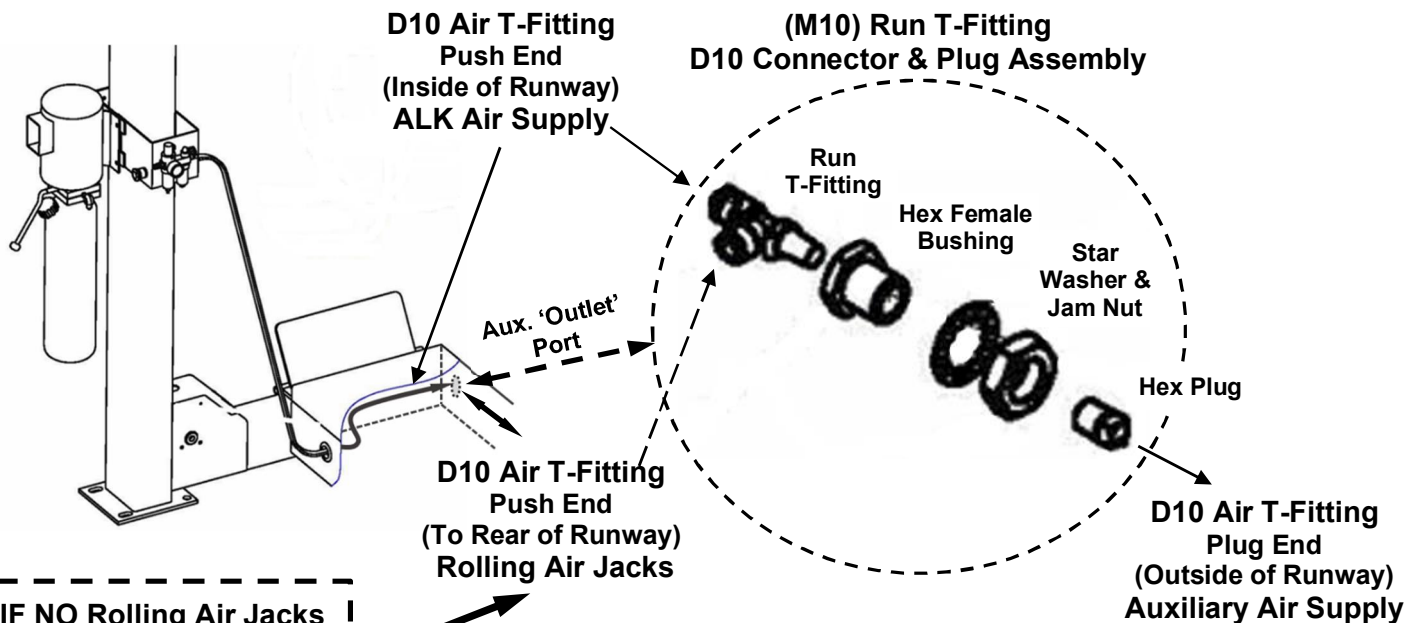
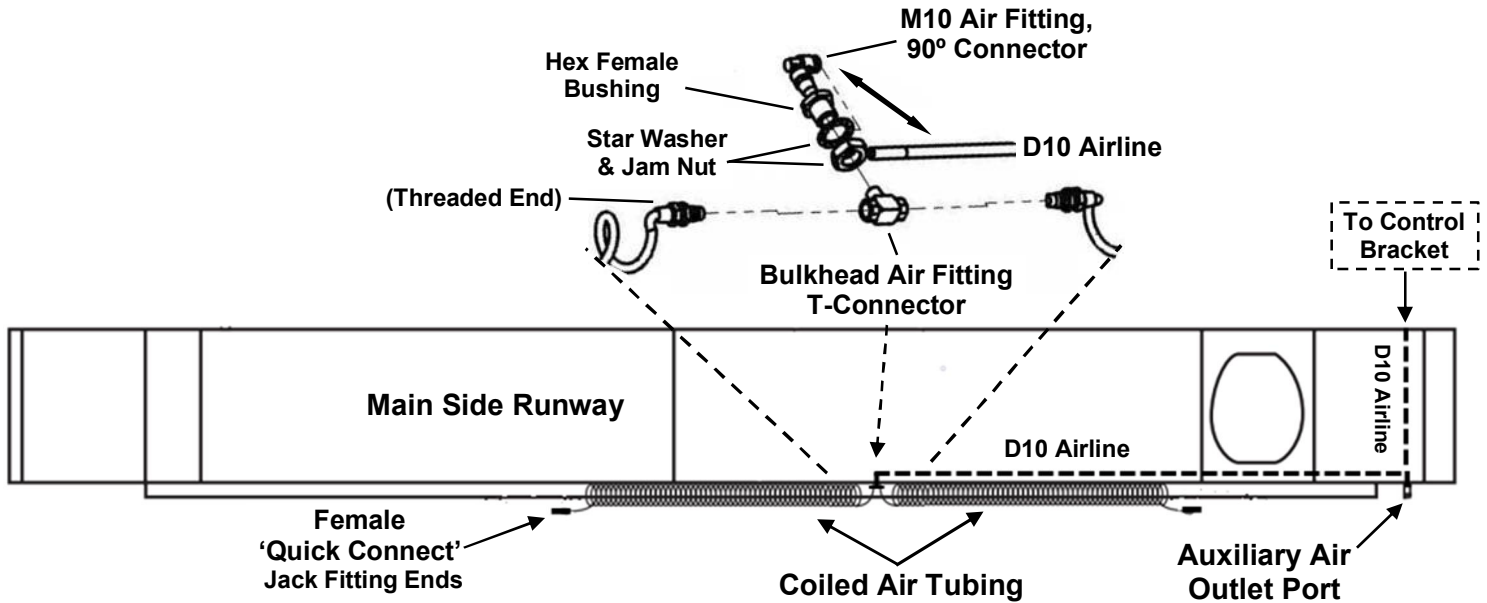

Fig. 7
Fig. 8
- 1) For Auxiliary Air Outlet Port. mount the (M10) Run T-Fitting Connector & Plug Assembly to runway port, ensuring the π section of Run T-Fitting is pointed towards the rear of runway, with the Hex Female Bushing & Plug end inserted through port hole in Runway. Secure T-Fitting with 45mm Jam Nut, Fig 7.
- 2) Using the previously routed D10 Airline, cut airline to length (if needed) to connect to the T-Fitting's push end port, directly across, ensuring the D10 airline is routed above & clear of Cable Pulleys, Figs. 7 & 8.
the end is positioned to the outside of runway towards jack rails. Secure Bulkhead Air Fitting T-Connector to runway with 45mm Female Busing, Washers & Jam Nut. Next, mount (M10) Air Fitting 90° Connector to Hex Female Bushing, positioned to the inside of the runway, **Fig 8**.
- 4) Using D10 x 110+Airline, connect to Auxiliary Ports T-Fittings, push end, on the inside of front of runway, **Fig. 7**; then route D10 airline to connect to the (M10) Air Fitting 90° Connector, **Fig. 8**.
- 5) Connect both Coiled Air Tubing, threaded ends to each side of the Bulkhead T-Connector. Note: The Female Quick Connector ends will connect to Rolling Jacks, **Fig. 8**.